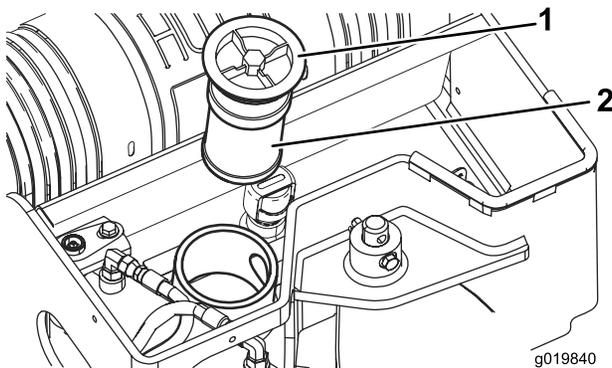

Figure 58
5. Clean the area around the filler neck of the hydraulic tank and remove the cap and filter from the filler neck using a socket (Figure 58).